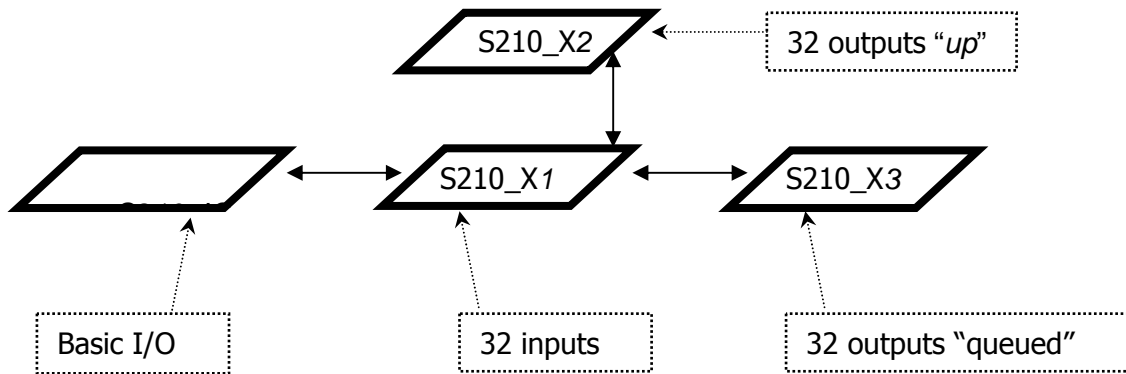

Fig.2
E.g., (see fig.2) the first expansion (e.g., 32 inputs) connected must use the S210_X1a library. The second expansion (e.g., 32 outputs) will use the S210_X2b library if it is connected on top of the previous one, while it will use the S210_X3b library if it is "queued" to the present one.